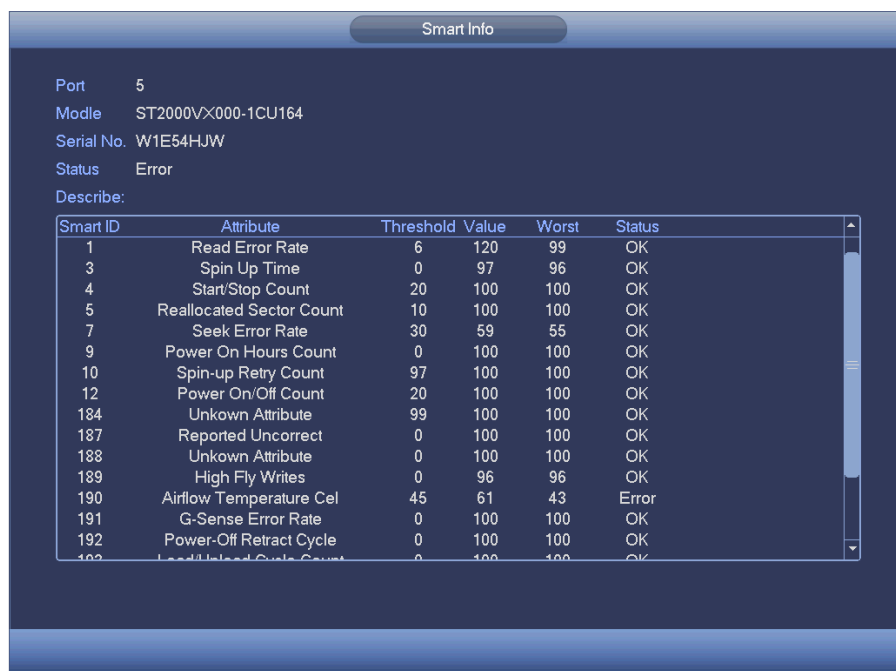

Figure 4-45
- SMART: Display HDD information. See Figure 4-45.
Double click one HDD information; you can see the HDD SMART information. See Figure 4-45.